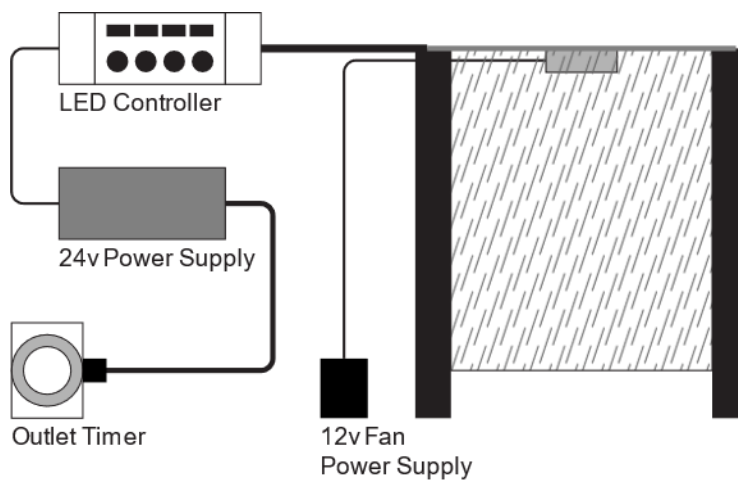

Figure 2. Old (2019-2021) Growing Beyond Earth kit
- For comparison, Figure 2 shows the older version of the Growing Beyond Earth kit including an outlet timer, fan power supply, and LED controller. Those components are now unnecessary because their functions are handled by the Control Box.